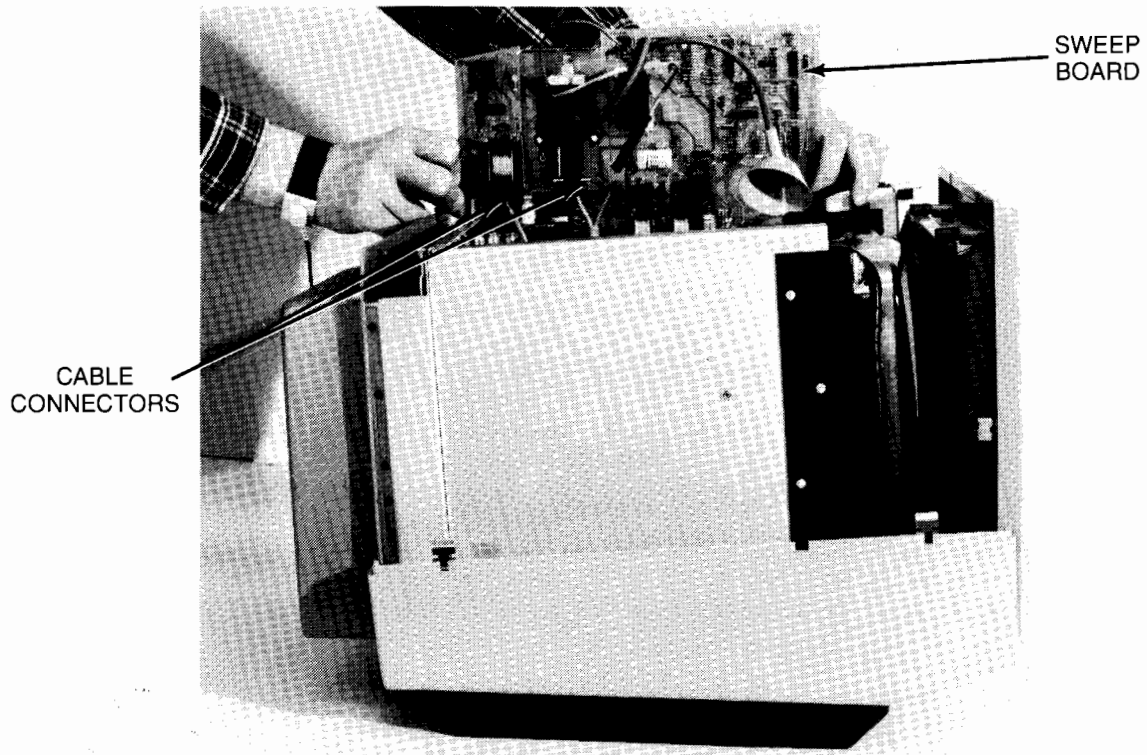

Figure 4-83. Removing Sweep Board
7. Slowly lift board straight up until two cable connectors are accessible (Figure 4-83).
8. Disconnect two cable connectors (Figure 4-83) and remove sweep board from display.